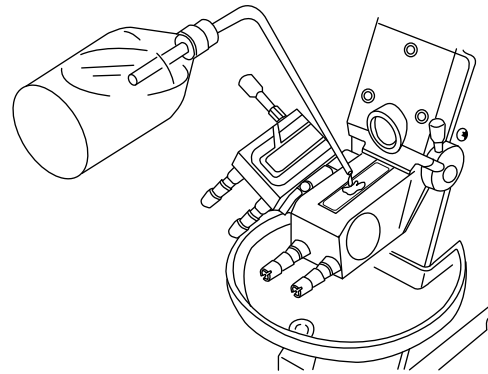

Fig. 7-1
- ① Turn the prism open-shut handle to open the secondary prism. Carefully clean the main and secondary prism surface and then apply a few drops of purified water onto the main prism. Close the secondary prism (Fig. 7-1).